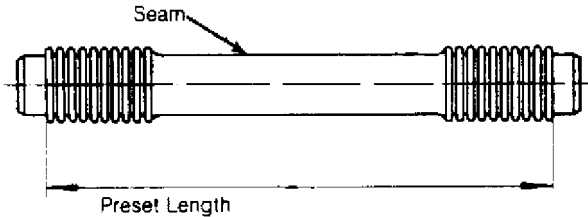

Fig. 5: Measuring Push Rod Tube Length
1) Ensure push rod tube is about 7.64" (194.0 mm) long between inside edges of tube sealing "O" rings. See Fig. 5. Seam of tube faces upward and small end of tube faces cylinder head. Always use new sealing rings and thoroughly clean mating surfaces.